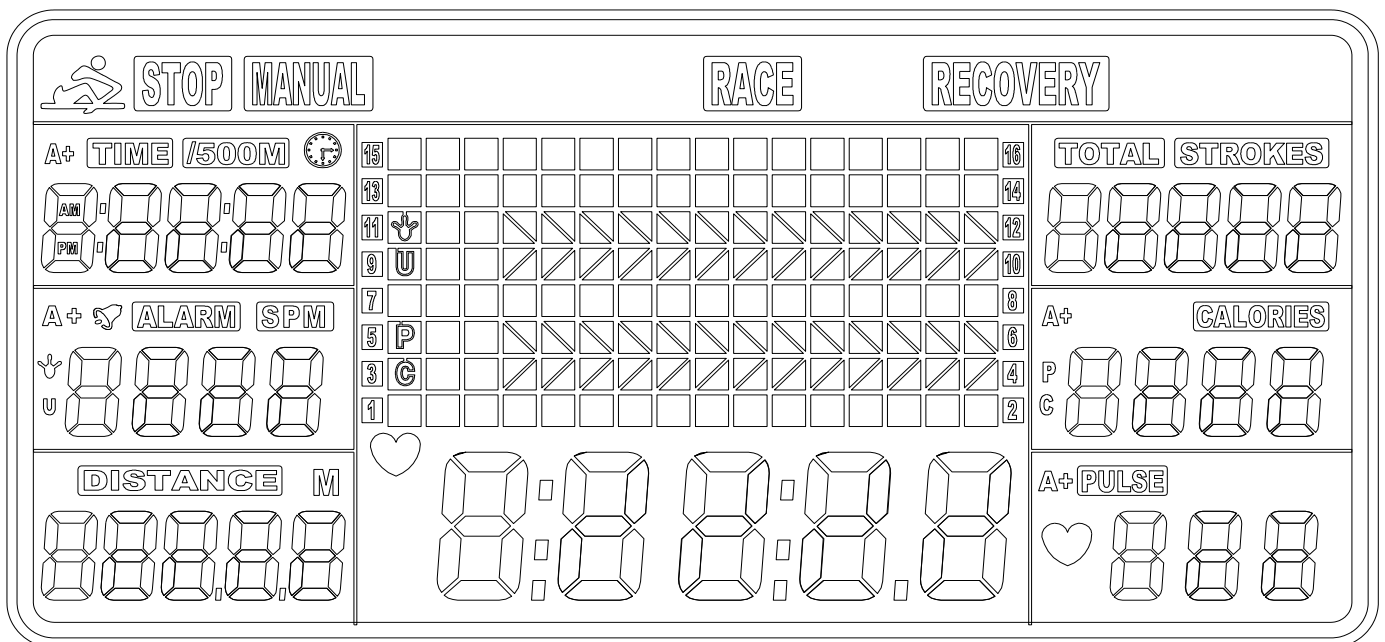
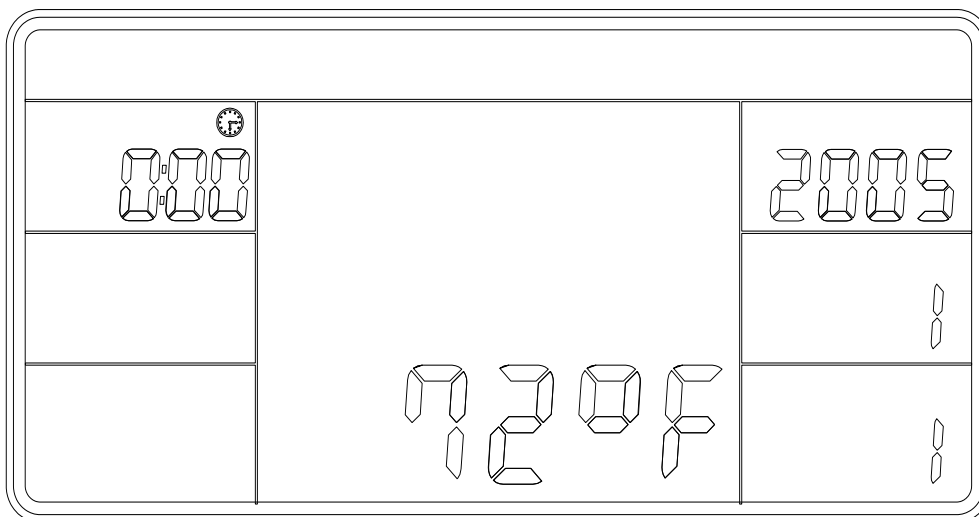

Fig 1
Fig 2
1. Install 2 PCS AA batteries (included) and meter will beep for 2 seconds (Fig.1). Then, the meter enters into the CLOCK & CALENDAR MODE (Fig.2).